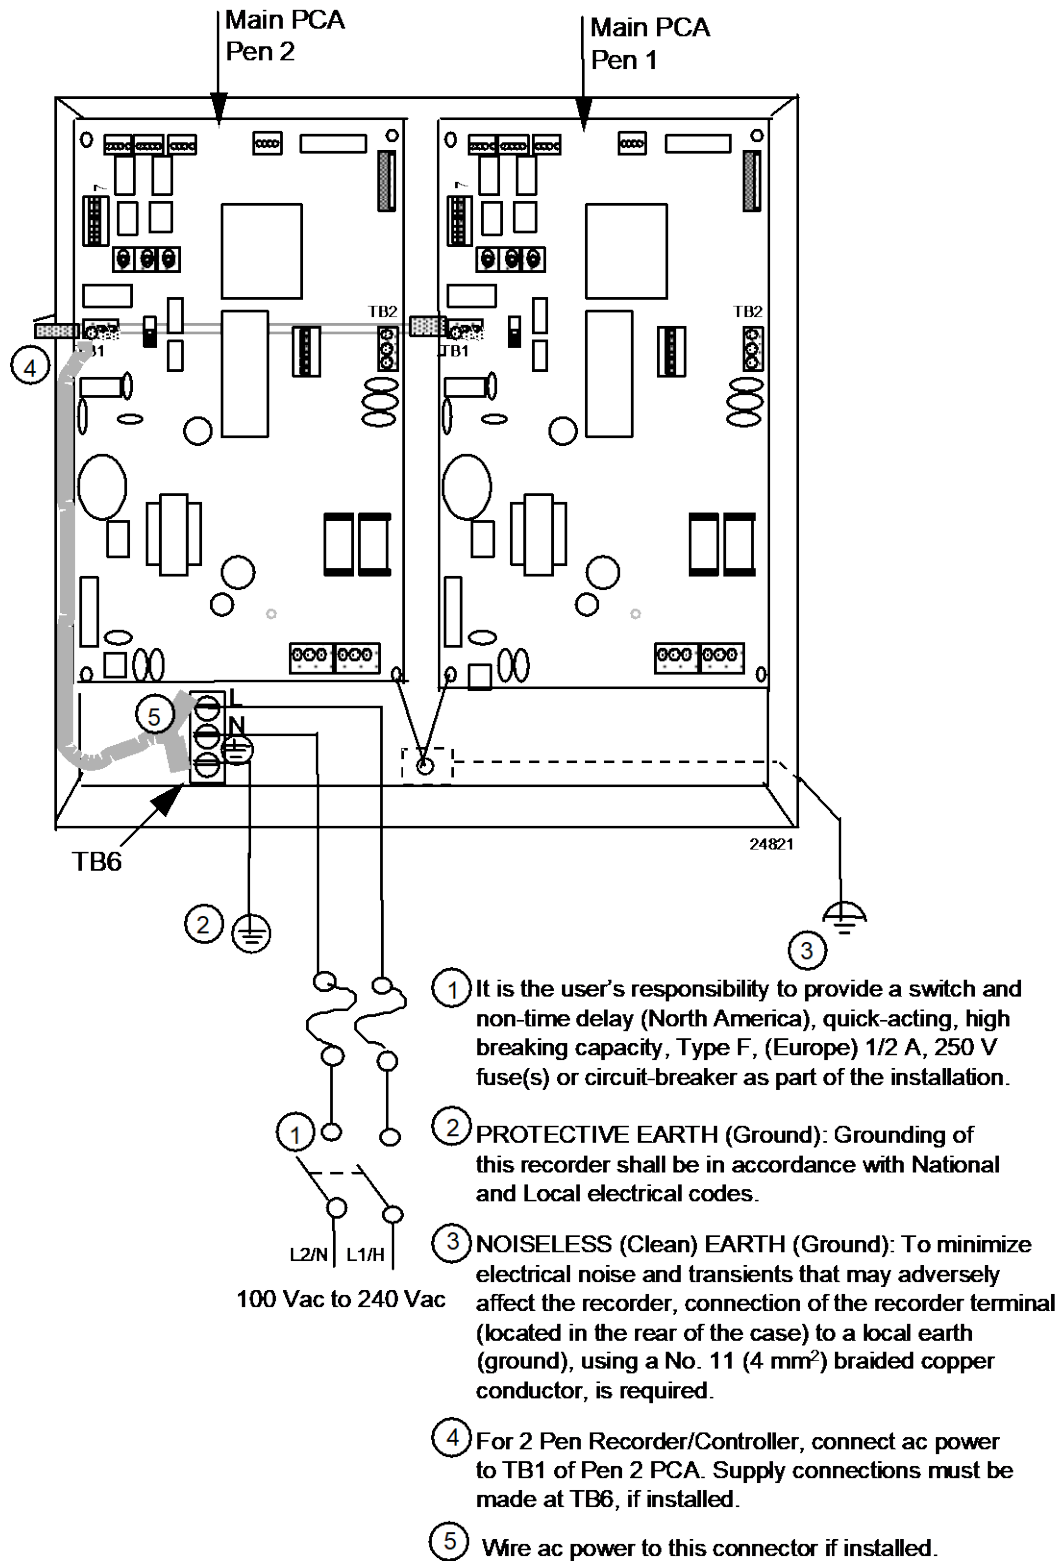
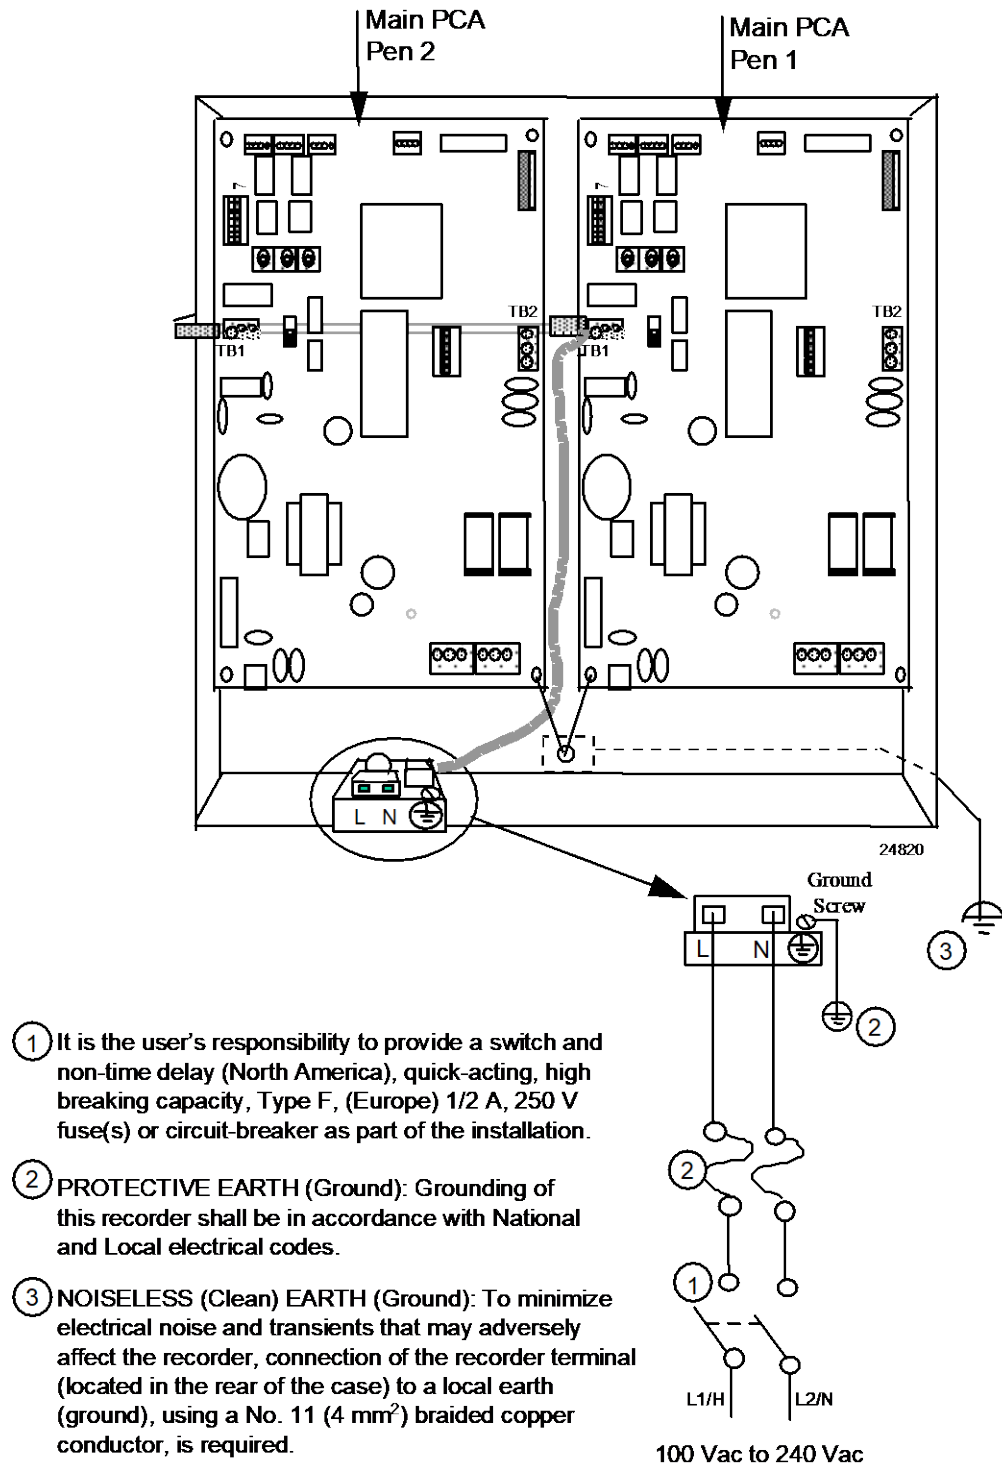

Figure 2-8 Power Wiring – Models Without CE Mark
Figure 2-9 Power Wiring – Models With CE Mark
Power Wiring - Models Without CE Mark	Figure 2-8
Power Wiring - Models With CE Mark	Figure 2-9
- See Figure 2-8 for models without CE Mark.
- See Figure 2-9 for models with CE Mark.
2	Locate the power terminal block for your recorder model. <ul style="list-style-type: none"> • See Figure 2-8 for models without CE Mark. • See Figure 2-9 for models with CE Mark. Note that the power connection between the boards on two-pen models is made at the factory. On CE Mark and UL models the connection between the terminal block at the bottom of the case and the PCA is also made at the factory. In all models, you only have to connect power to a single terminal block.
ATTENTION: To avoid damaging the recorder, be sure that you install the power wires into the correct screw terminals as shown Figure 2-8 and Figure 2-9.
ATTENTION To avoid damaging the recorder, be sure that you install the power wires into the correct screw terminals as shown in Figure 2-8 and Figure 2-9.
ATTENTION To avoid damaging the recorder, be sure that you install the power wires into the correct screw terminals as shown Figure 2-8 and Figure 2-9.